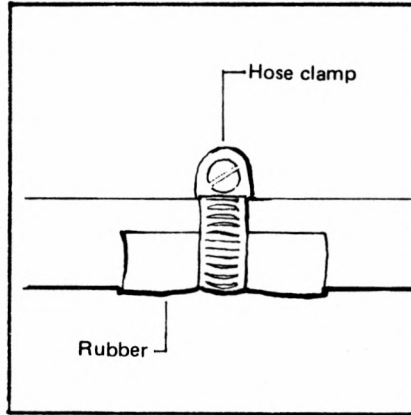

FIG. 4-6 HOSE CLAMP & RUBBER TO STOP LEAK
- d. Place the rubber over the leak and tighten a hose clamp over the rubber. See Figure 4-6.